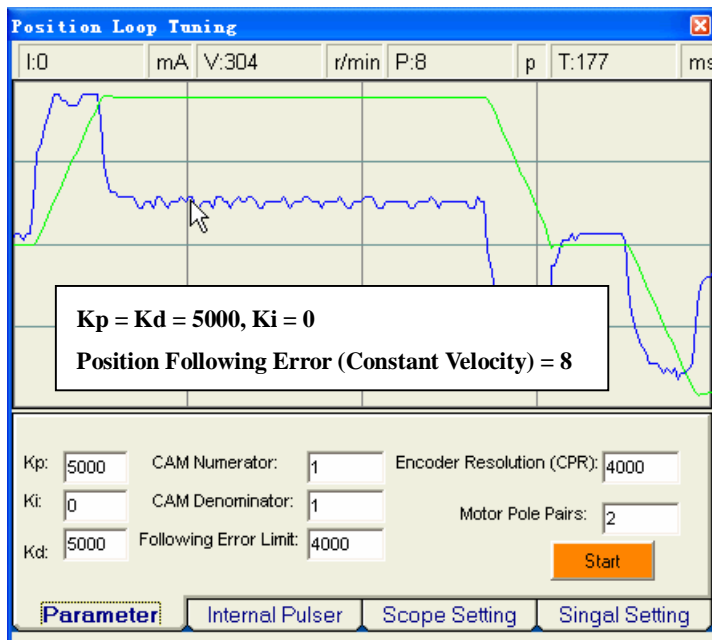
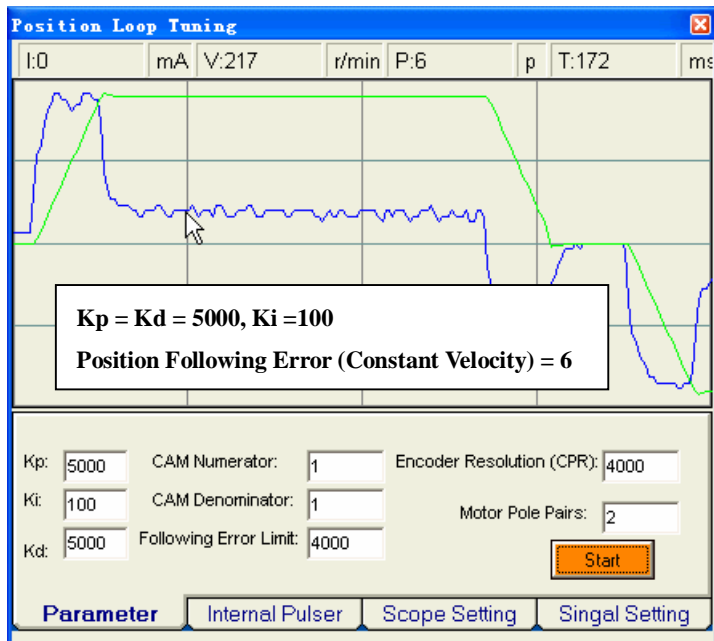

Figure 3-15: Large Position Following Error when $K_i = 0$
Figure 3-16: Increase Ki to 100 for Smaller Position Error
Step 3: Now the system has been basically tuned. But there is still large position error during constant velocity. See figure 3-15. We can increase the integral gain K_i a bit to reduce the error. See figure 3-16, 17 and 19 for this procedure. Please note that too large K_i will lead to bad result.